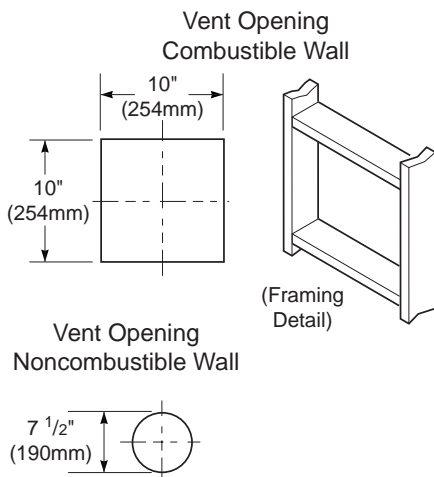
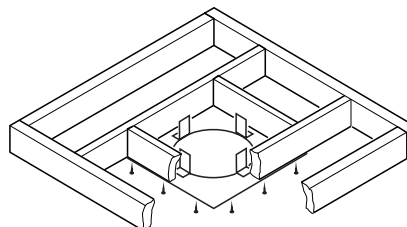

Figure 12 - Vent Opening Requirements
Figure 22 - Installing Firestop
- Attach vent pipe assembly to the fireplace. Set fireplace in front of its permanent location to insure minimum clearances. Mark the wall for a 10" square hole (for noncombustible material such as masonry block or concrete, a 7 1/2" diameter hole is acceptable). See Figure 12. The center of the hole should line up with the center-line of the horizontal rigid vent pipe. Cut a 10"x10" (254mm x 254mm) square hole through combustible exterior wall (7 1/2" [190mm] diameter hole if non-combustible). Frame as necessary (see Figure 12).
1. Cut a 10" square hole in the ceiling using the locating hole as a center point. The opening should be framed to 10"x10" (254mm x 254mm) inside dimensions, as shown in Figure 12 on page 9 using framing lumber the same size as the ceiling joists. If the area above the ceiling is an insulated ceiling or a room, nail firestop from the top side. This prevents loose insulation from falling into the required clearance space. Otherwise, install firestop below the framed hole. The firestop should be installed with no less than three nails per side (see Figure 22).
3. Cut a hole in the roof using the locating hole as a center point. (Cover any exposed open vent pipes before cutting hole in roof.) The 10"x10" hole must be measured on the horizontal; actual length may be larger depending on the pitch of the roof. There must be a 1" clearance from the vent pipe to combustible materials. Frame the opening as shown in Figure 12 on page 9.